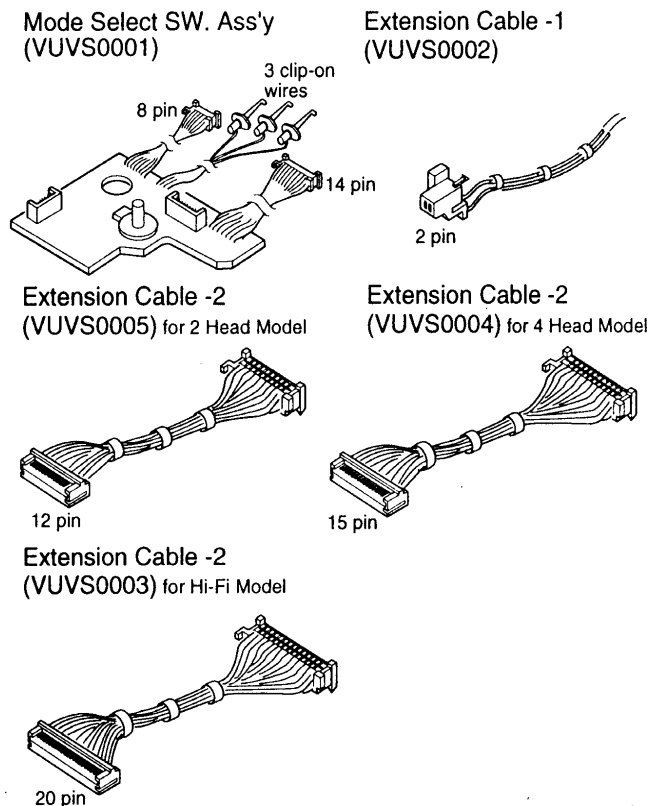

Fig. 5 - Extension Cable Kit
Service Position (3) (Figs. 5, 6, 7)